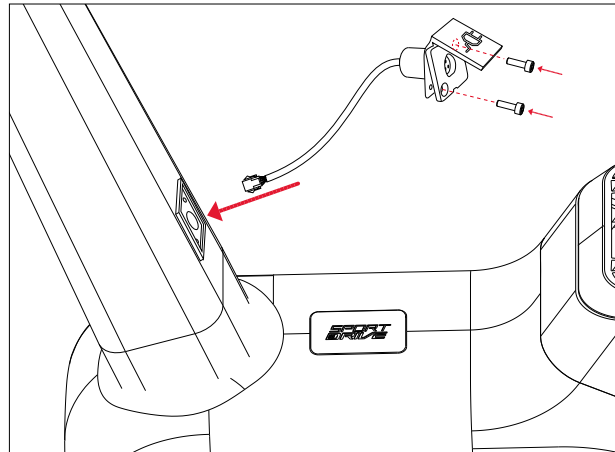

Figure 4.35 Charging connector assembly
1. Route the charging connector cables through the opening in the frame (Fig. 4.35).
2. Mount the charging connector to the frame using two M3 x 9.5 mm fasteners (Fig. 4.35). Tighten the fasteners to 1Nm.